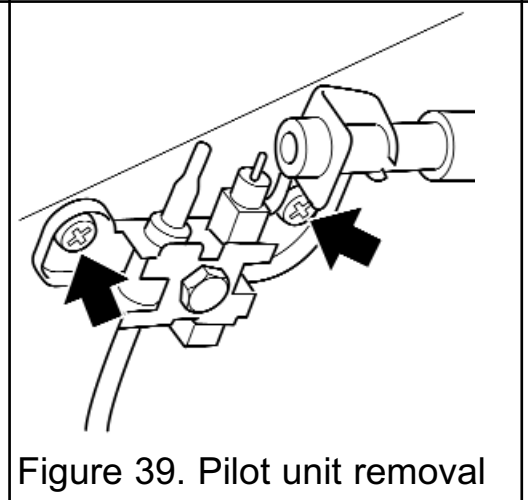

Figure 39. Pilot unit removal
5. Remove the two screws securing the pilot unit (See figure 39).